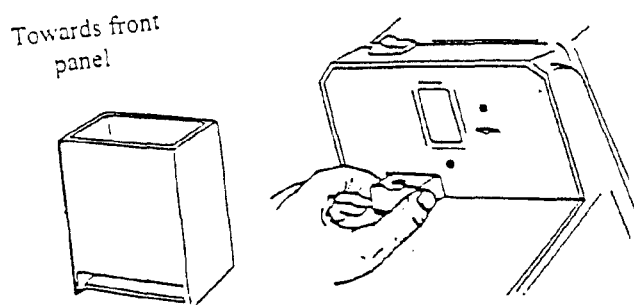

Figure 8
1. To remove condensation drain (*see Fig. 8*); push in on front panel just under drain and pull down with fingers.